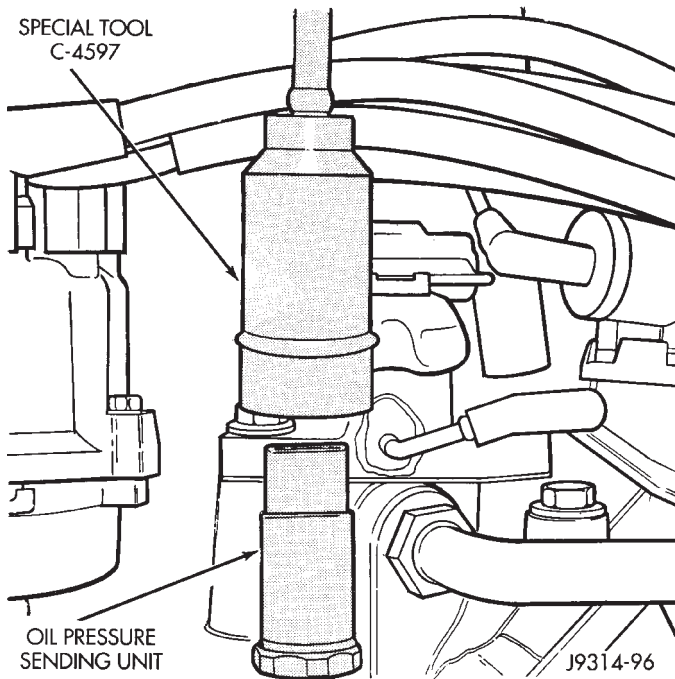

Fig. 9 Oil Pressure Sending Unit—Removal/Installation
(6) Disconnect electrical connector at engine oil pressure sending unit.
(7) To prevent damage to oil pressure sending unit, a special tool, such as number C-4597 must be used (Fig. 9). Remove sending unit from engine.